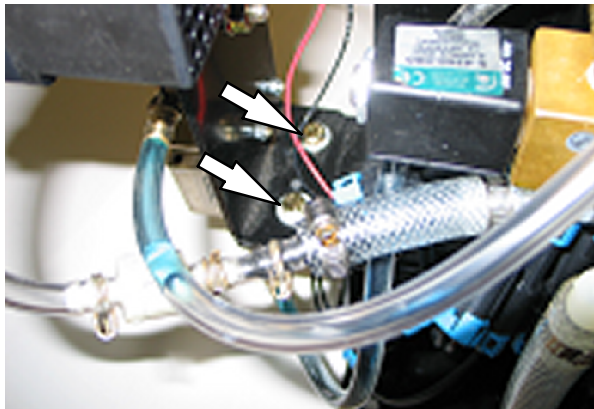

FIG. 7
9. Remove the hardware holding the detergent pump to the FaST bracket. Set hardware aside since these items are used to install the detergent pump onto the new FaST bracket (1). **Do not** remove any components from the detergent pump mounting bracket. Refer to Fig. 7.